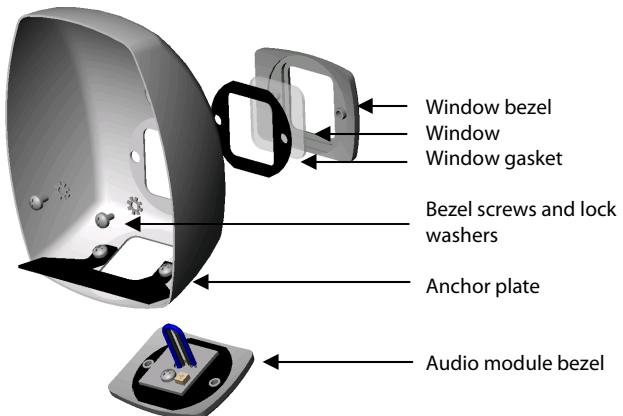

Figure 2
The camera is factory assembled for wall mounting. For ceiling mounting, swap the positions of the window bezel and the audio module bezel. See Figure 2.
- 2 Exchange the audio module and window bezels. Install the gasket between each bezel and the camera cover. Position the anchor plate as shown in Figure 2.